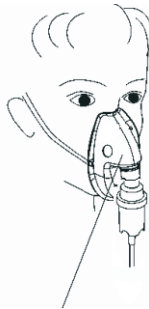

Figure 8
2. Locate the power switch on the top of the unit. Switch it to the "ON" position as shown below (Fig. 8). Power switch will light up when on.